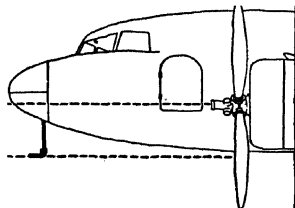

FIG. 35.—Location of Pitot-static tube.
**Tests on Airplane.**—See that the Pitot-static tube is pointing straight forward, in line with the normal flight direction of the airplane (see Fig. 35). If it is not, it may be bent to the right direction.1 If it is damaged in any way, especially near the static opening, take it off and put on a new tube. Take the tubes off the air speed indicator and, if there are connections from